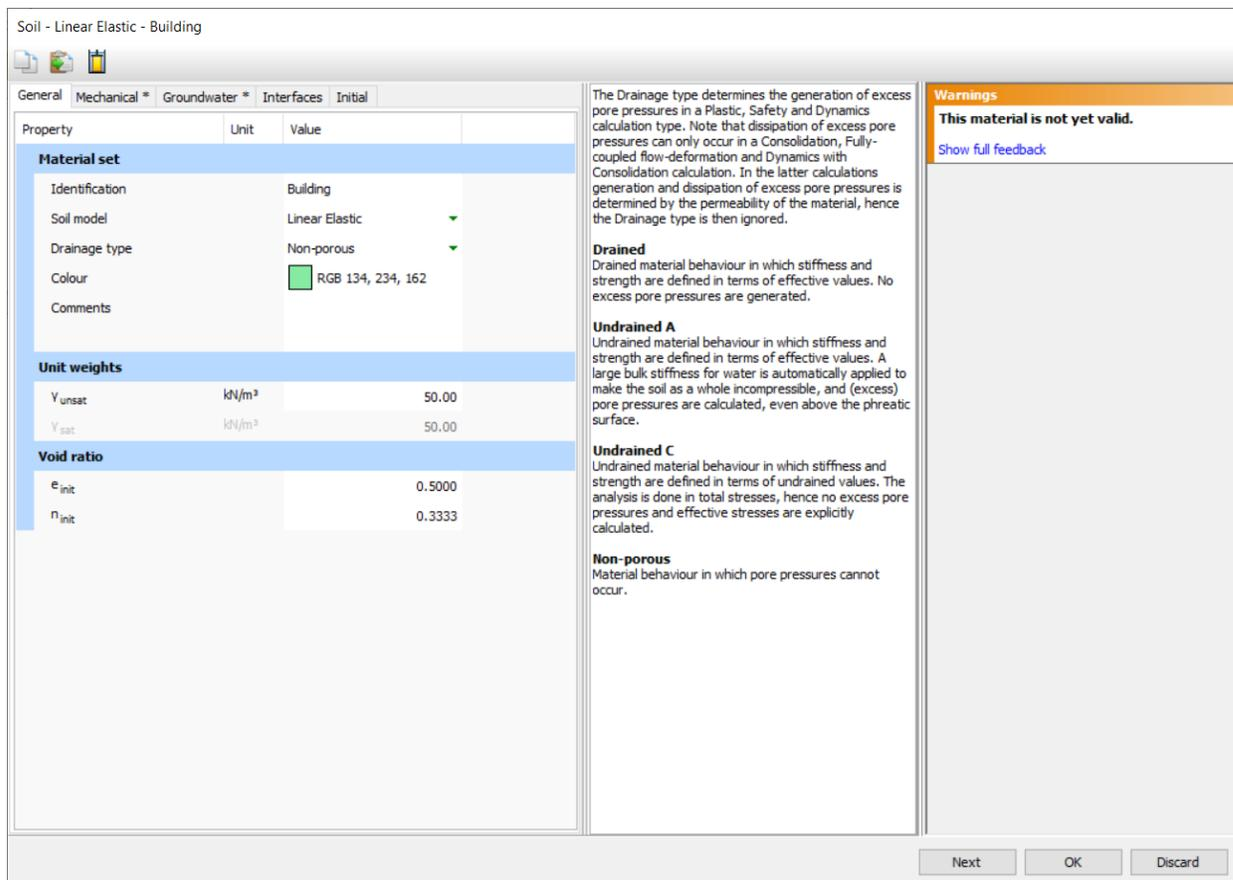

Figure 9: Drainage type - General tabsheet of the Soil and interfaces data set window
3. Select **Linear Elastic** model from the **Material model** drop-down menu and **Non-porous** from the **Drainage type** drop-down menu as displayed in Figure 9 (on page 17).